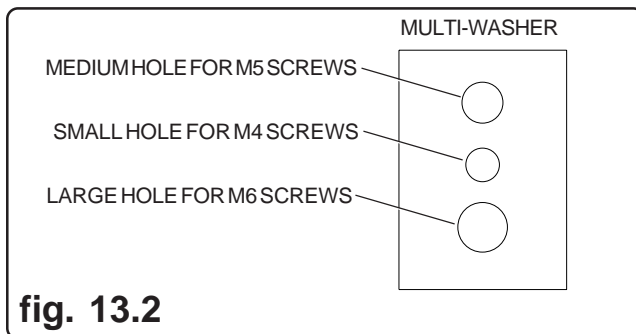

fig. 13.2
- Use the corresponding hole in the multi-washer that matches your screw size as shown in figure 13.2.